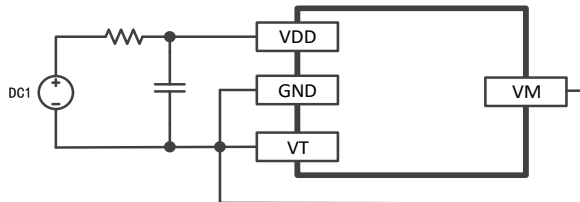

Figure7-5
a. As shown in the figure7-5, connect the positive pole of DC1 to B +, and the negative pole to GND, and set the voltage to 3.6V;